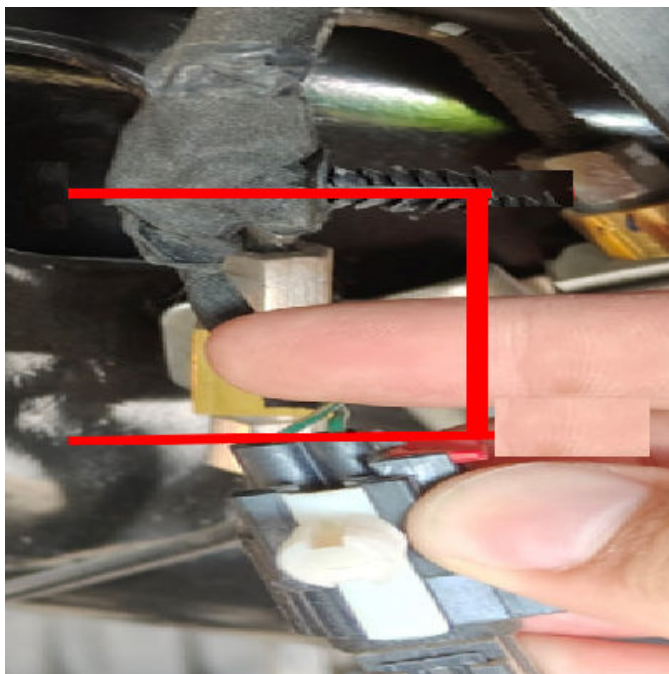

Fig. 6
11. Install the wiring clip 55mm. (2.0 in.) from the back of the harness connector Fig. 6.